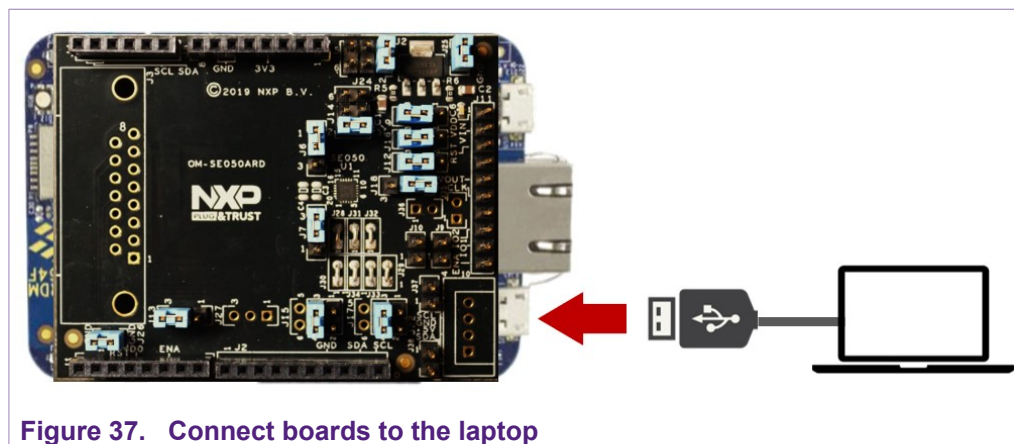

Figure 37. Connect boards to the laptop
1. Attach a USB cable from the computer to the K64F OpenSDA debug USB connector as shown in Figure 37.